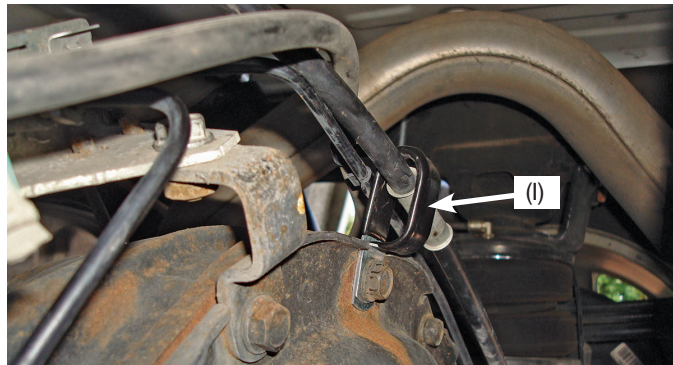

fig. 8
12. Install the large frame clamp (I) over the emergency brake cable facing the rear with the hole down (fig. 8) and attach to the rear end using the stock bolt previously removed.